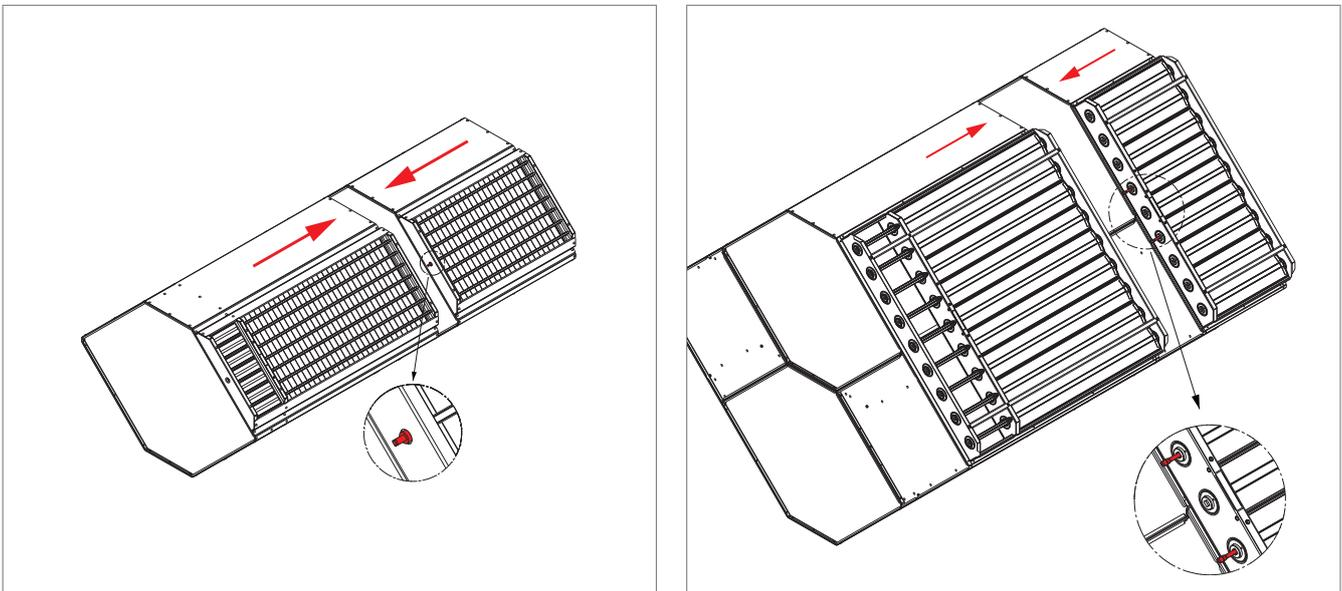

Fig. 7: Connect the dampers of partitioned exchangers with connecting bolt(s).
- One or several connecting bolts are preinstalled in one of the exchangers (see Fig. 7) or enclosed with the delivery.